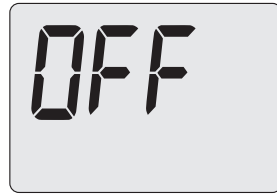
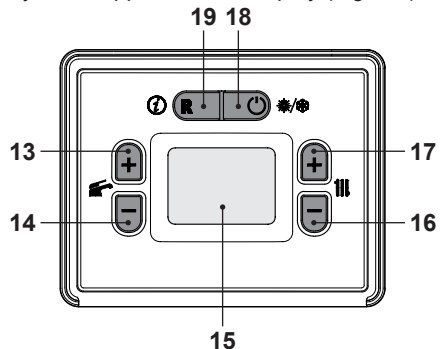

Fig. 7.3
Fig. 7.4
- Electrically power the boiler by switching on the double pole isolation switch. The LCD display will show the message **OFF** (Fig. 7.3).
- Press the 18 key until both  and  symbols appear on the display (Fig. 7.4).
- Switch off the boiler by pressing the 18 (Fig. 7.4) key until the message **OFF** appears on the LCD display (Fig. 7.3).